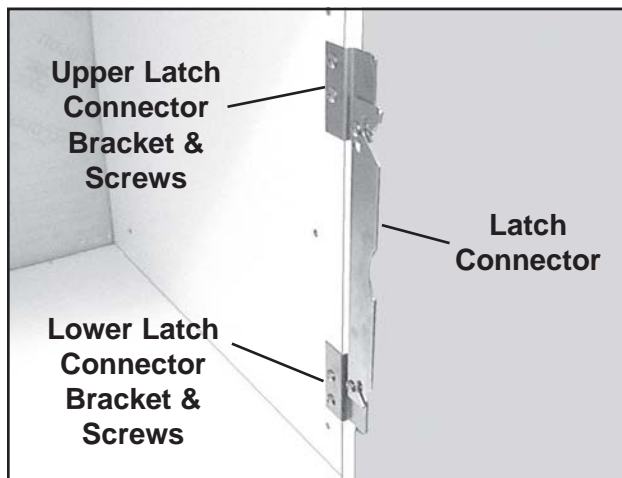

Figure 25. Latch Connector & Bracket Assembly (mounted on right)
2. With a Phillips screwdriver, remove the two screws that hold the lower latch connector bracket to the cage (Figure 25).